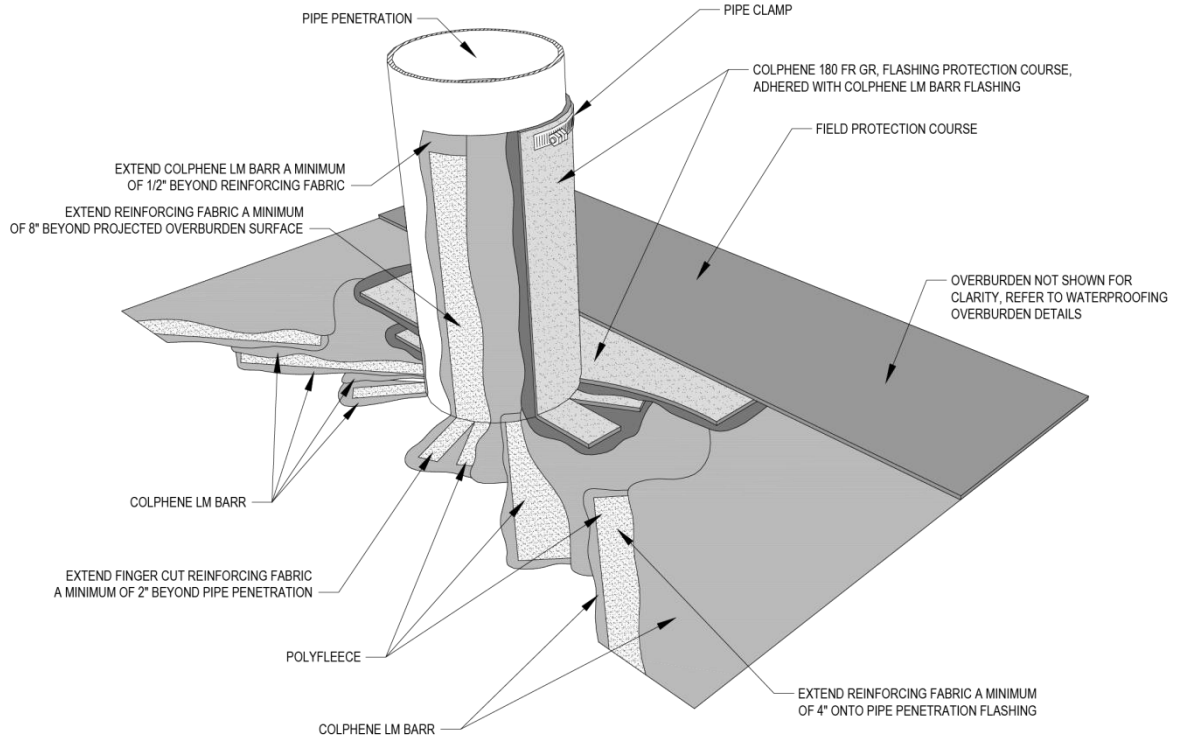

Figure 2.1b COLPHENE® LM BARR At Penetration
- Refer to Figures 2.1b and 2.1c below.